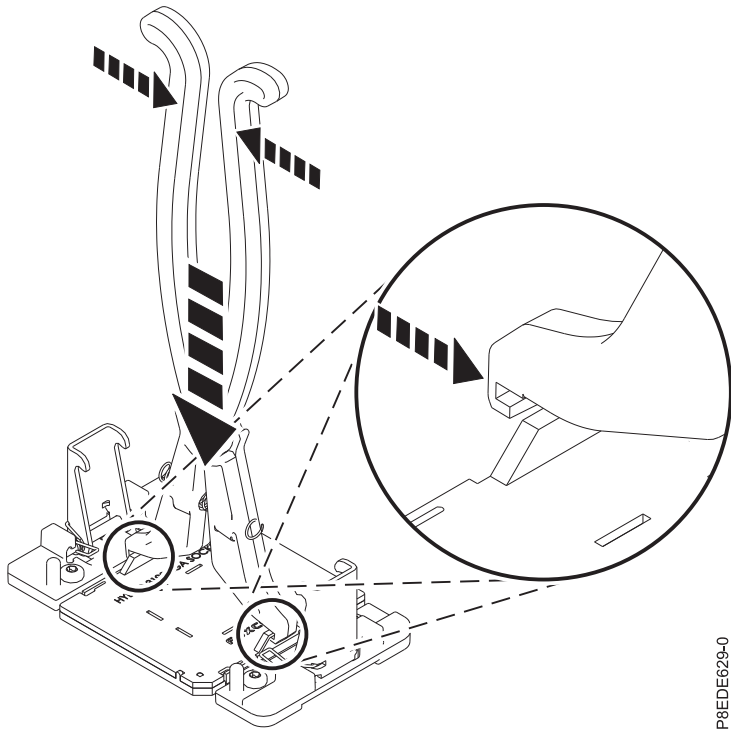

Figure 188. Removing the system processor socket cover
- a. Grasp the socket cover tabs with the supplied cover removal tool (part number 00FX605). Squeeze the removal tool handles. Then, lift the cover straight up. See Figure 188 on page 189.